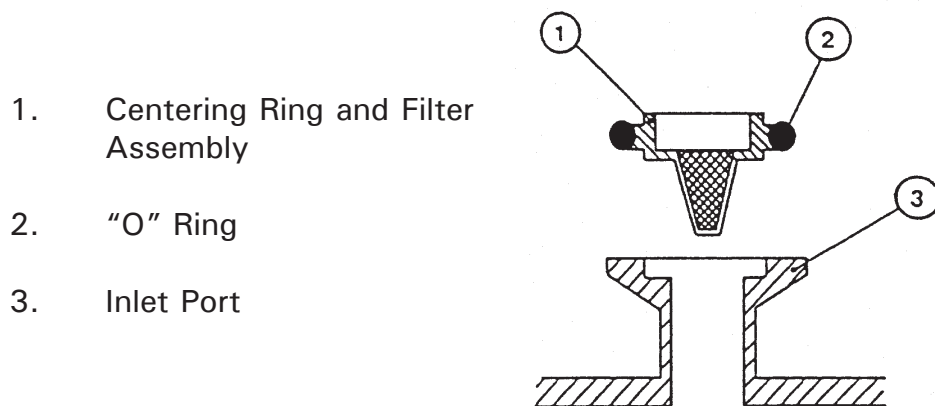

Figure 3 - Inlet Filter Assembly
1. Refer to Figure 3. Disconnect your vacuum system from the pump inlet-port (3) and remove the centering-ring and filter assembly (1) and the 'O' (2). Inspect the centering-ring and the 'O' ring. If they are clean, continue at Step 5. If they are not clean, continue at Step 2.
2. Remove the 'O' ring (2) from the centering-ring and filter assembly (1). Do not allow the 'O' ring to come into contact with the cleaning solution.